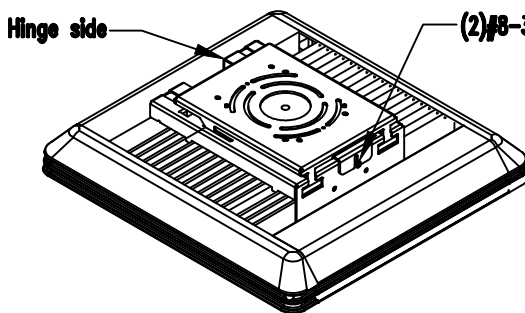
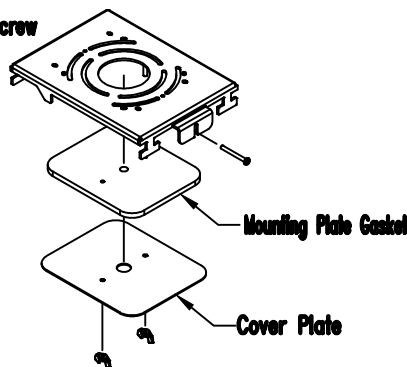

Fig. 1
Fig. 2
1. Remove mounting plate from luminaire by backing out the #8-32 set screw about 1 inch. See Figure 1. Slide mounting plate toward the set screw side and lift up until removed. Remove gasket and cover plate from mounting plate by unscrewing the 2 wing nuts. See Figure 2.